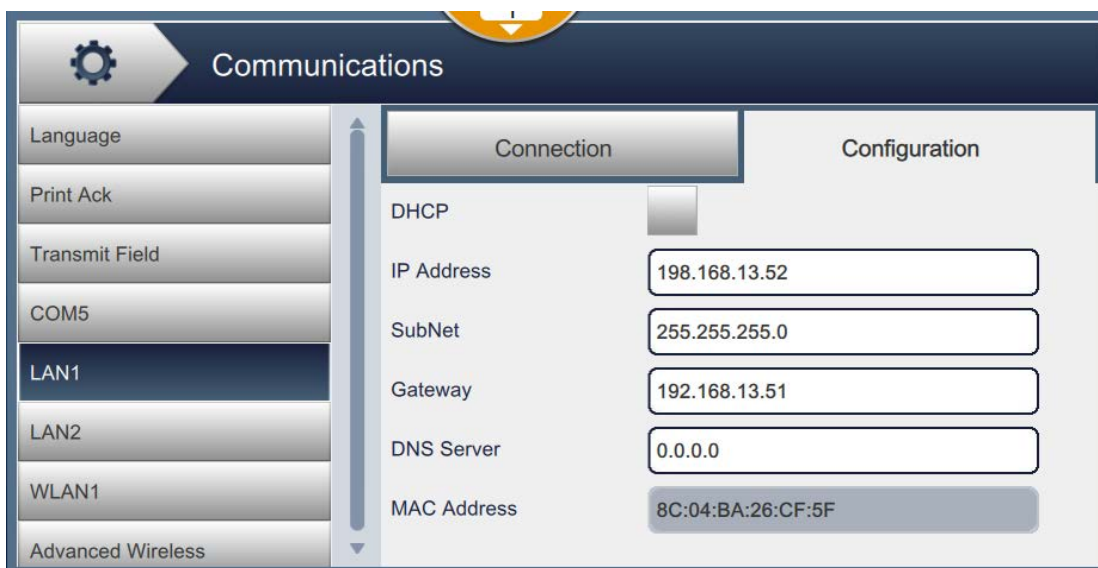

Figure 3-12: Configuration
1. Navigate to *Tools > Communications > LAN1 > Configuration* as shown in Figure 3-12.